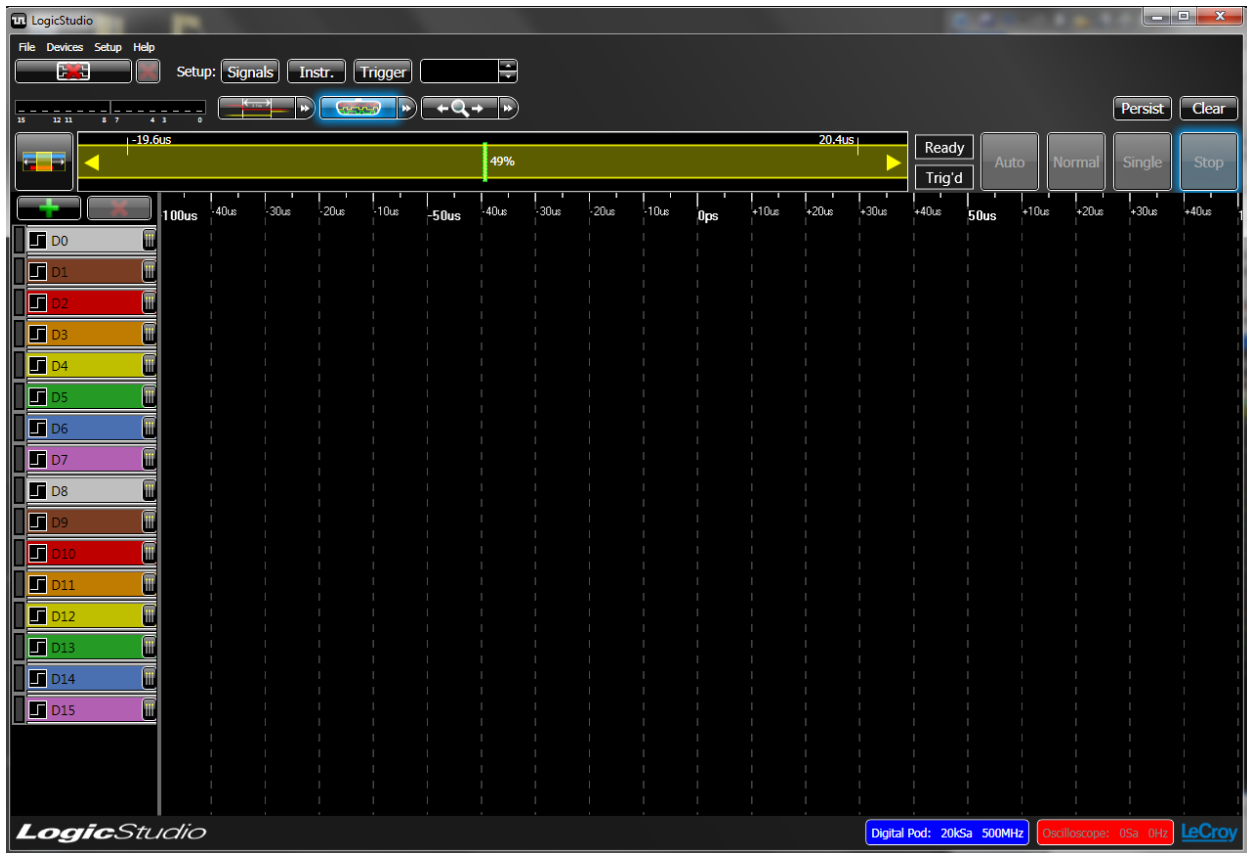

Figure 1 - Initial LogicStudio Setup
4. Your computer screen should be similar to Figure 1.